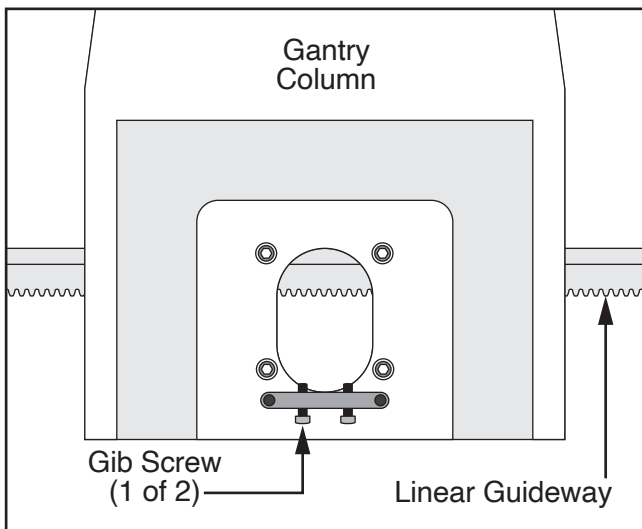

Figure 35. Gantry column gib screw location.
2. Loosen (2) gib screws on left and right gantry columns, but do not remove (see **Figure 35**).